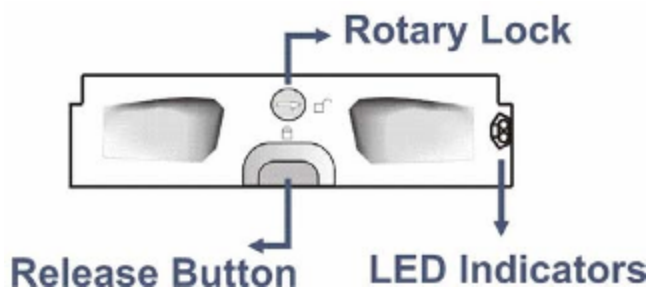

Figure 1-15: Drive Tray Front View
The subsystem comes with sixteen (16) drive trays (see *Figure 1-15*) designed to accommodate separately-purchased, standard 1-inch pitch, 3.5-inch Fibre disk drives. The drive bays are accessible from the front of the enclosure. Two (2) LEDs on the front bezel indicate drive operating statuses. A rotary bezel lock prevents accidental removal, while a release button ensures fast and efficient drive swapping. Screw holes on the sides can be used to secure hard drives to the drive tray.